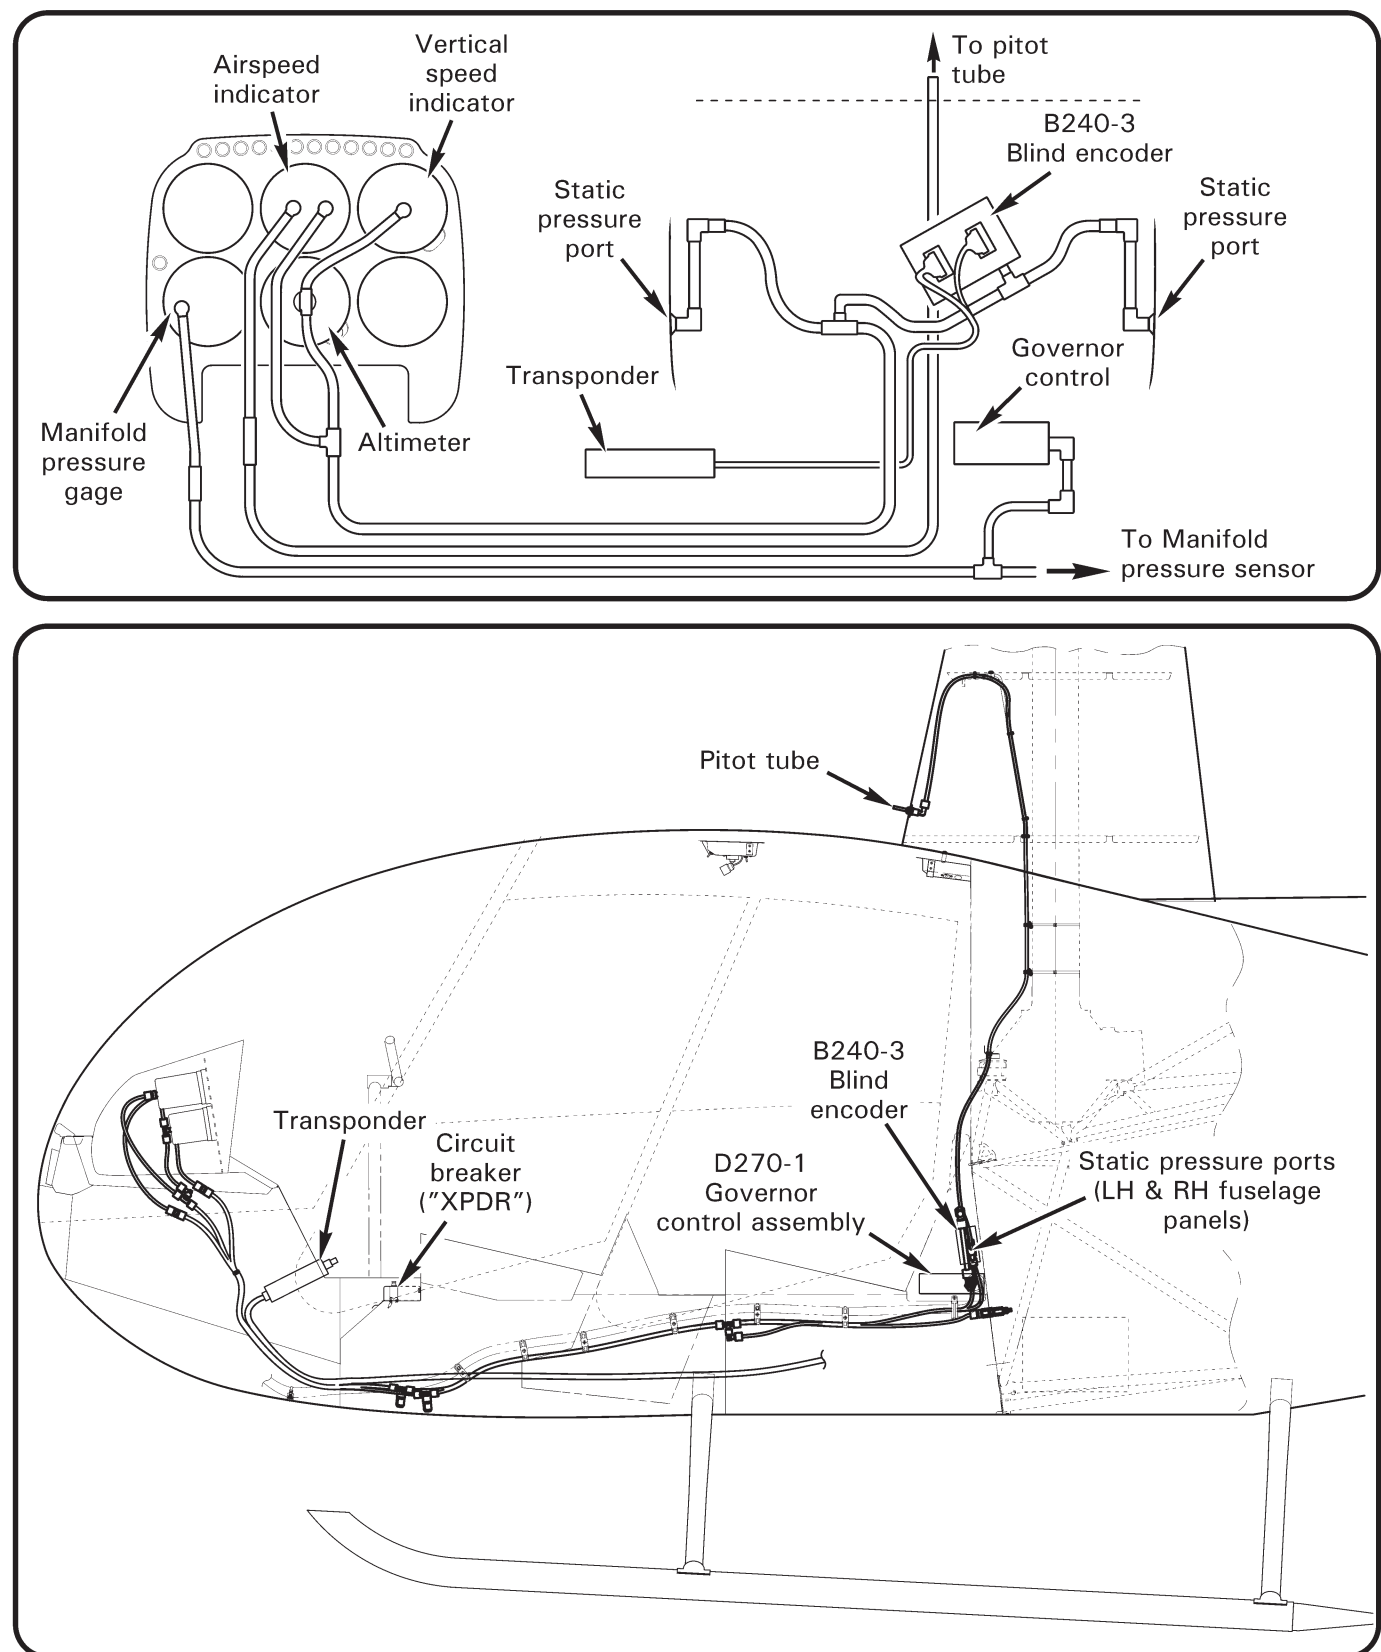

FIGURE 13-1 PITOT-STATIC SYSTEM (SHOWN WITH DIGITAL GOVERNOR)
2. Refer to Figure 13-1. Seal drain hole in elbow aft of pitot tube with pressure-sensitive tape. Connect a medical syringe, with plunger withdrawn, to pitot tube via flexible tubing.
1. Refer to Figure 13-1. Set altimeter to location elevation.
Refer to Figure 13-1 for pitot-static system diagram.